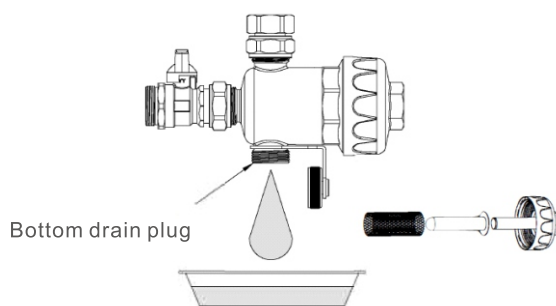

Figure 1
3. Close the ball valve and carefully unscrew the plug cap, the water will gradually begin to flow (Figure 1), emptying the loop for maintenance.